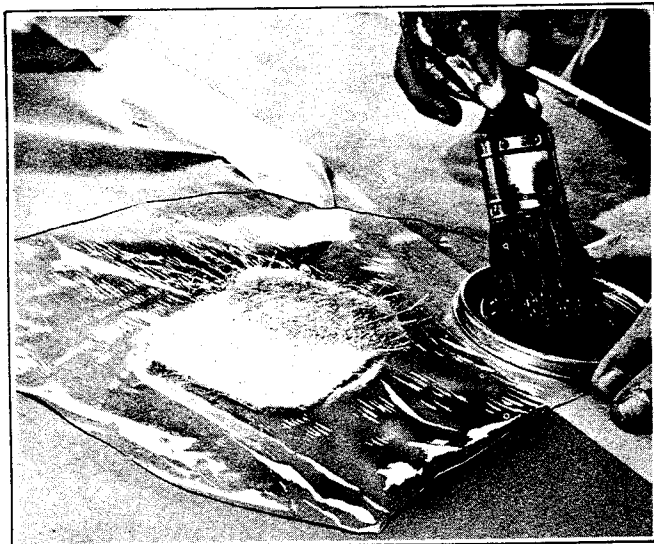

Figure 2-75. Applying Resin to Mat
6. Mix a small amount of pre-accelerated resin and catalyst and daub resin on mat, thoroughly wetting it out. This may be done on a piece of cellophane or wax paper. See Figure 2-75.